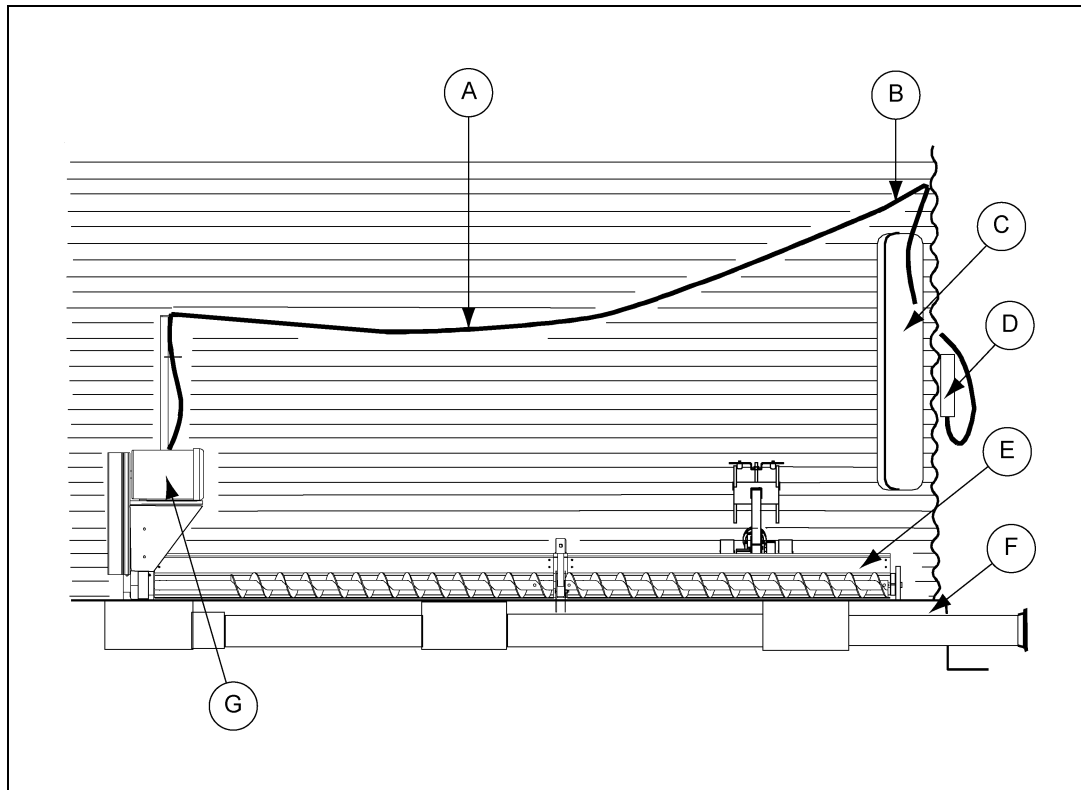

Figure 5G
5. Attach suitable electric wiring to the motor in a manner that will permit the sweep to rotate several times about the bin. The motor starting controls must be located outside of the bin. They must never be installed on the sweep auger inside the bin. Locate the motor starting controls outside the bin, but near the door so the operator has full view of the operation inside the bin. (See Figure 5G.)